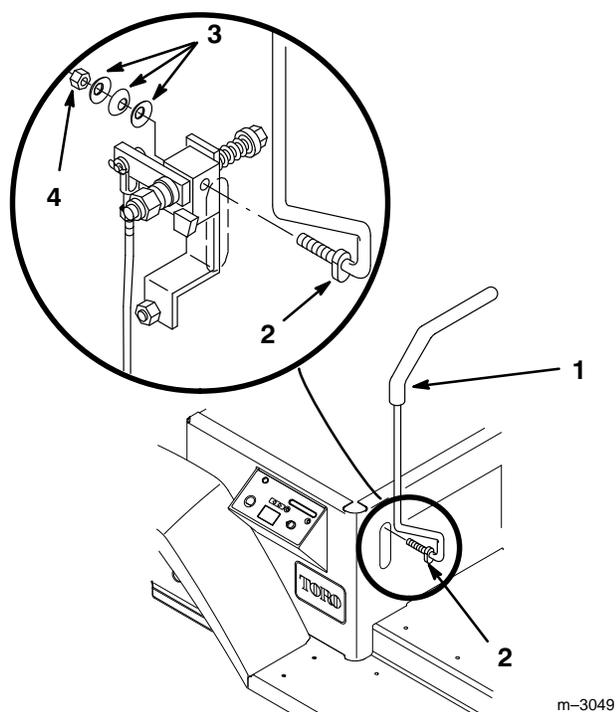

Figure 1
1. Locate index tab on left and right rods vertical and slide into control block (Fig. 1).
2. Position (3) 1/2" (13 mm) spring washers onto threaded end of rod, alternating as shown (Fig. 1). Secure with 1/2" locknut.